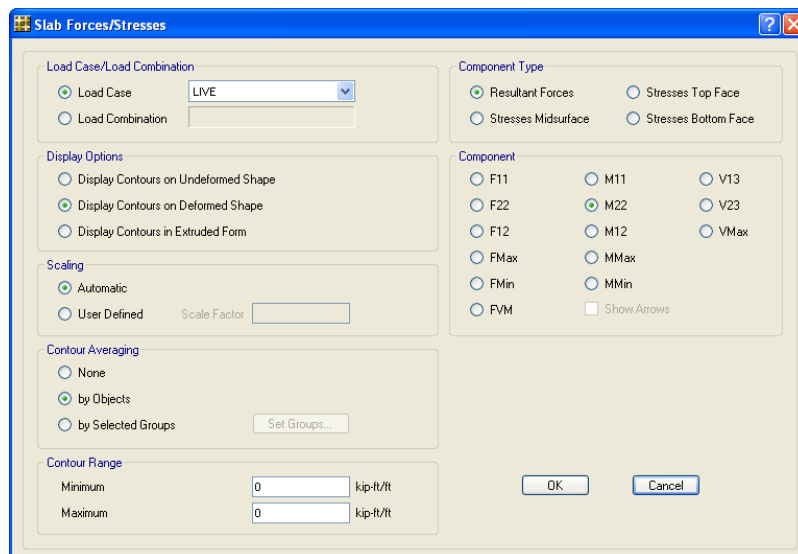

Figure 38 Slab Forces/Stresses form
- I. Click the **Display menu > Show Slab Forces/Stresses** command to bring up the Slab Forces/Stresses form shown in Figure 38.